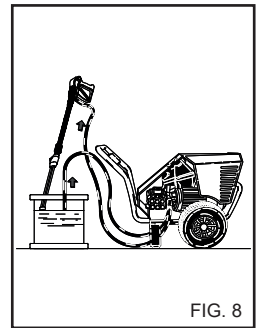

FIG. 8
After using a detergent, the detergent intake circuit must be flushed out with clean water (fig. 8).
- 1) After using with detergent, flush out the intake circuit; place the detergent suction hose (fig. 8) in a tank of clean water and let the pump run for 1 minute with the dosing tap turned fully on and the lance in detergent delivery condition.
4) After using with detergent, flush out the intake circuit; place the detergent suction hose (fig. 8) in a tank of clean water and let the pump run for 1 minute with the dosing tap turned fully on and the lance in detergent delivery condition.